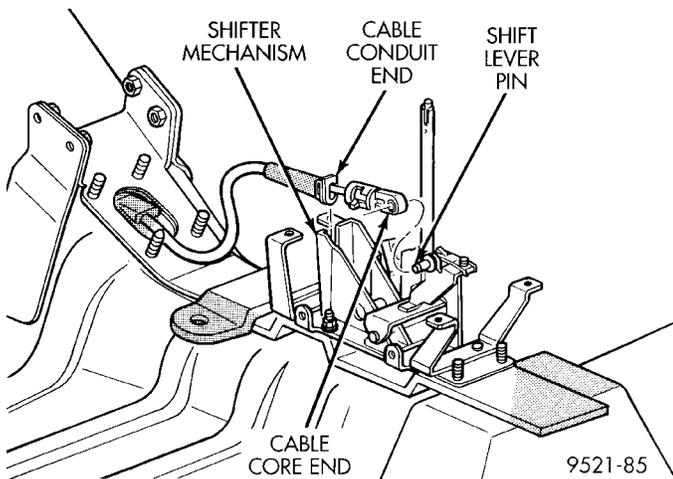

**Fig. 13 Gearshift Handle**
(1) Disconnect battery negative cable and isolate.
(2) Remove console assembly. Refer to Group 23, Body.
(3) Remove the gearshift knob set screw and knob (Fig. 13).